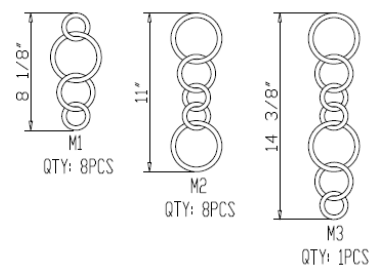

Fig .2
CONNECTION THE WIRES (Fig. 2)
- At this point, connect the electrical wires as shown in figure 2, making sure that all wire connectors are secured. If your outlet has a ground wire (green or bare copper), connect the ground wires from the hanger ball and mounting plate to it. Otherwise, connect the ground wire from the hanger ball directly to the mounting plate ground wire and secure with the wire connectors provided. After wires are connected, tuck them carefully into the ceiling junction box.